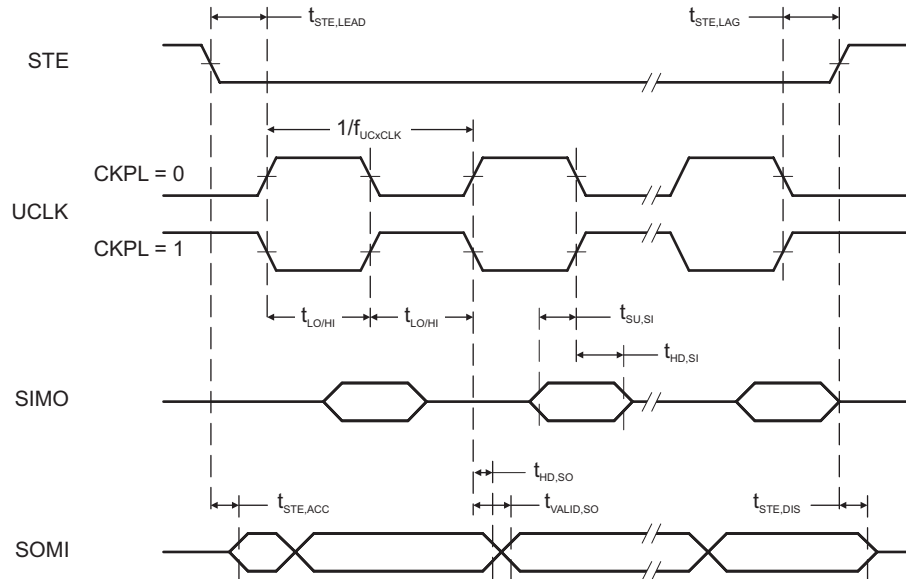
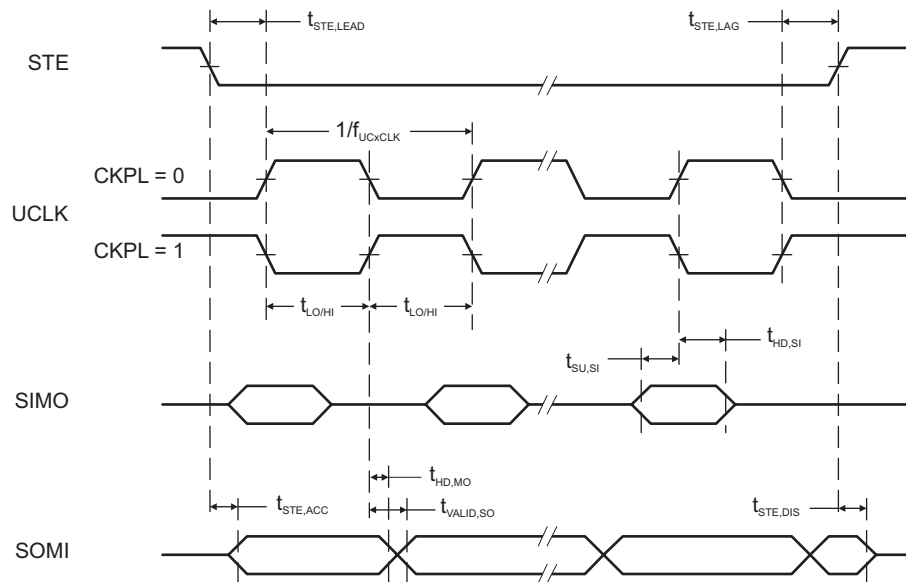

Figure 5-18. SPI Slave Mode, CKPH = 0
Figure 5-19. SPI Slave Mode, CKPH = 1
over recommended ranges of supply voltage and operating free-air temperature (unless otherwise noted)(1) (see Figure 5-18 and Figure 5-19)
- (2) Specifies the time to drive the next valid data to the SOMI output after the output changing UCLK clock edge. See the timing diagrams in Figure 5-18 and Figure 5-19.
- (3) Specifies how long data on the SOMI output is valid after the output changing UCLK clock edge. See the timing diagrams in Figure 5-18 and Figure 5-19.